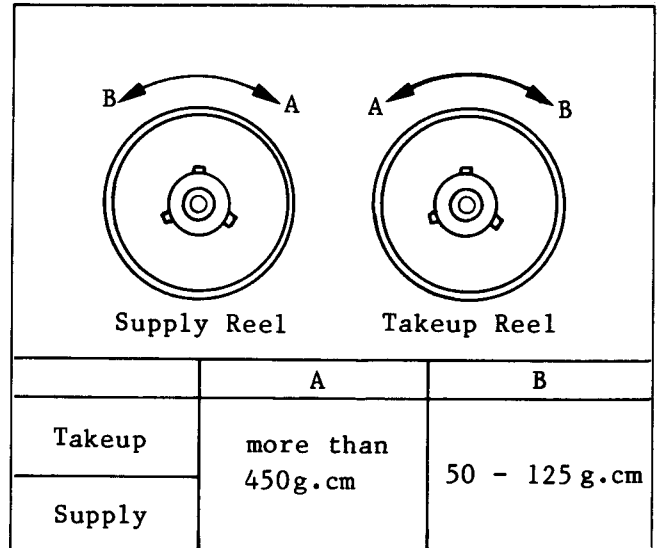

Fig. M17-2 Confirmation of Brake Torque
5. Turn torque gauge in either direction indicated in the Fig. M17-2 and read the gauge when the brake begins slipping.